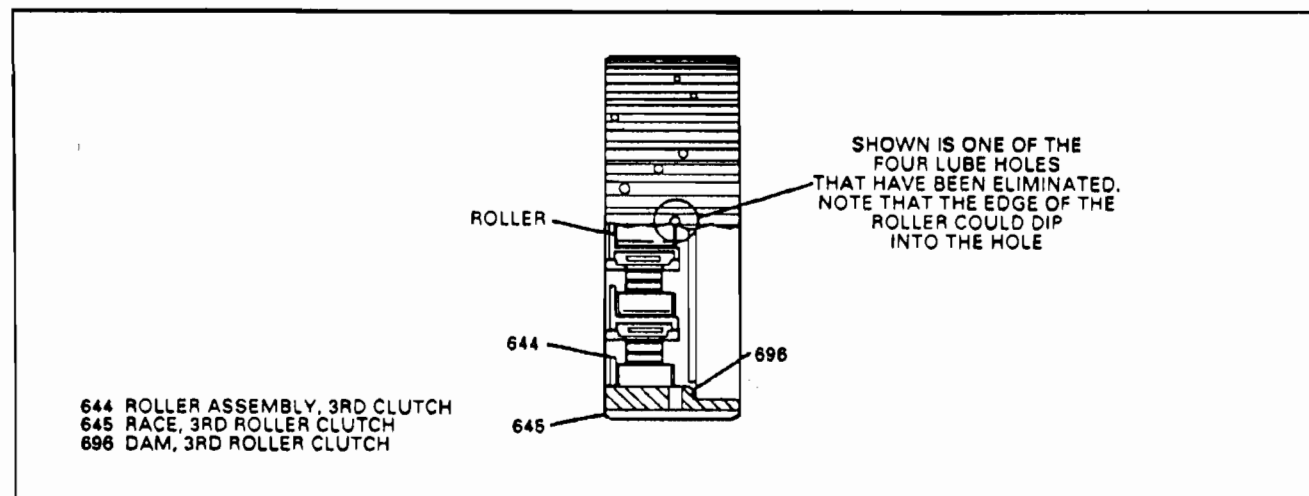

Figure 46
- (2) **3RD ROLLER CLUTCH ASSEMBLY** - The new 3rd roller clutch outer race has four (4) less lube holes than previous models. The four lube holes are in line with the very end of the rollers (See Figure 46). Elimination of these holes helps keep the rollers from "Skewing" (Running at an Angle), thus generating less heat.